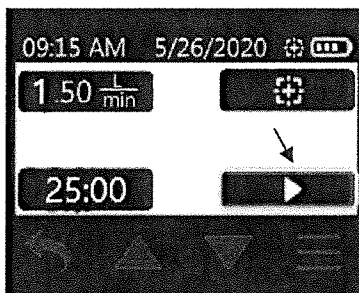

Figure 23. Run Button
3. Touch Run button in Flow Menu to run pump in constant flow (Figure 23).